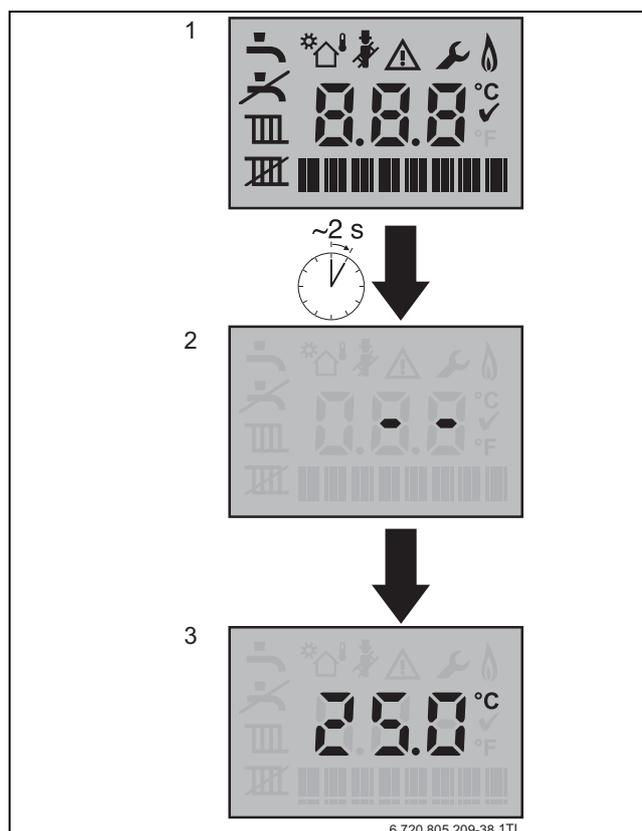

Fig. 63 Start up screens
- ▶ Turn on the mains power supply, initially the “Boiler start up screens” will be displayed (see figure 63:)